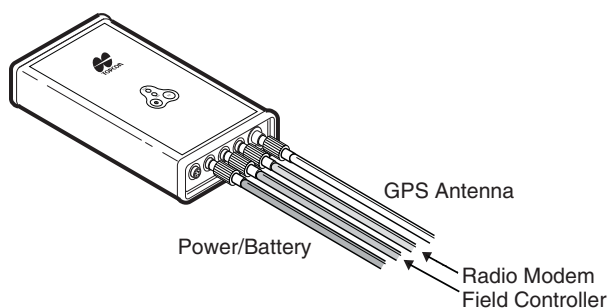

Figure 5-3. PG-A1 Base Station Cable Connections
Step 3: connect component cables to the receiver (Legacy-E+ or HiPer Lite+), then connect the cables to other components (Figure 5-3 on page 5-6).